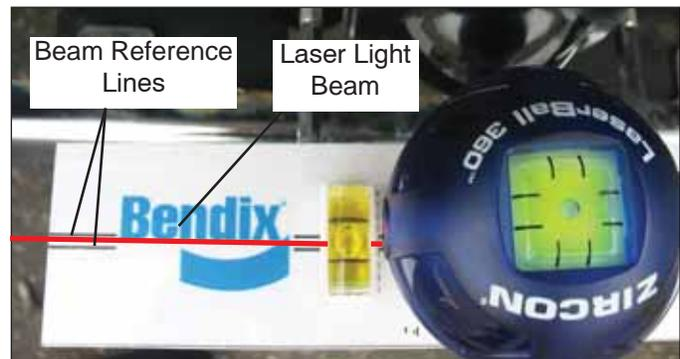

FIGURE 33 - POSITIONING THE LASER LEVEL (KITS K041451 OR K041227)
3. Position the alignment tool over the radar sensor so that it straddles the radar sensor. Attach the alignment tool to the bracket / radar sensor assembly with its magnet attachments. See Figures 33 and 34.